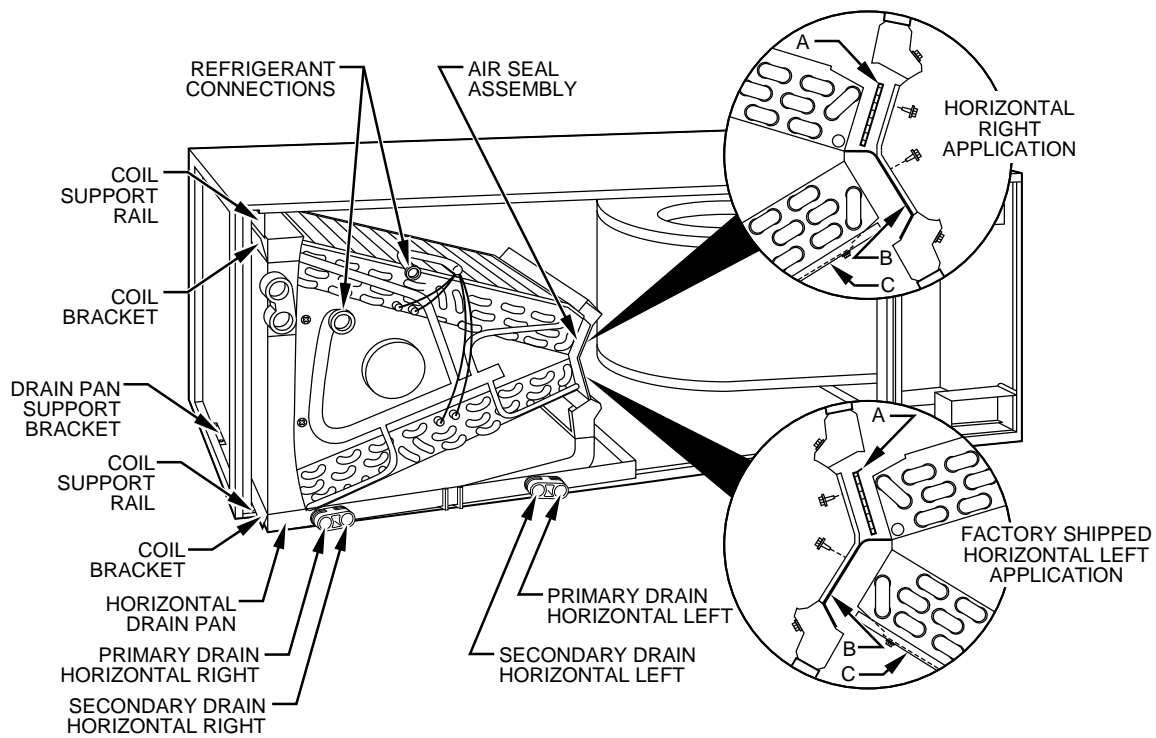

Fig. 8—A-Coil in Horizontal Right-Application
1. Remove blower and coil access panels. (See Fig. 8.)
- b. Remove air splitter (B) from coil seal assembly by removing 3 screws. (See Fig. 8—factory-shipped inset.)
- c. Remove filler plate (A) and install air splitter (B) in place of filler plate.
- d. Install filler plate (A) as shown in horizontal right application.
- e. Remove condensate troughs (C) and install on opposite tube sheets.